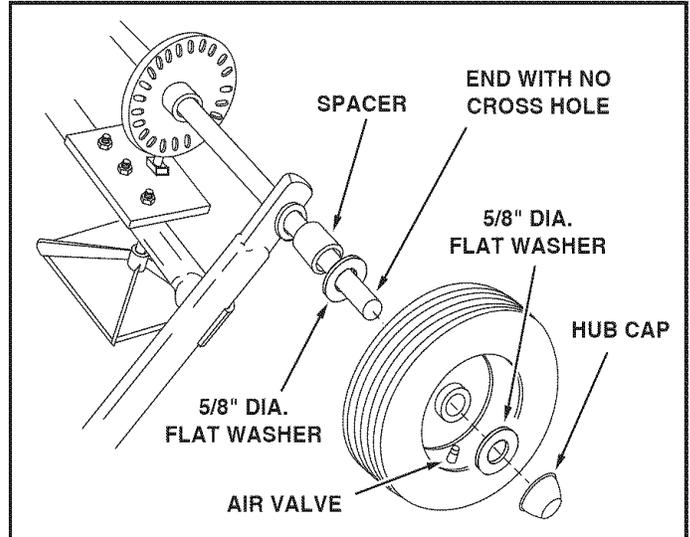

FIGURE 3
- Select the end of the axle with no cross hole. Assemble a spacer, a 5/8" flat washer, a wheel (air valve facing out) and then another 5/8" flat washer onto the axle. See figure 3.
- Install a hub cap by tapping it carefully onto the axle with a hammer. See figure 3.